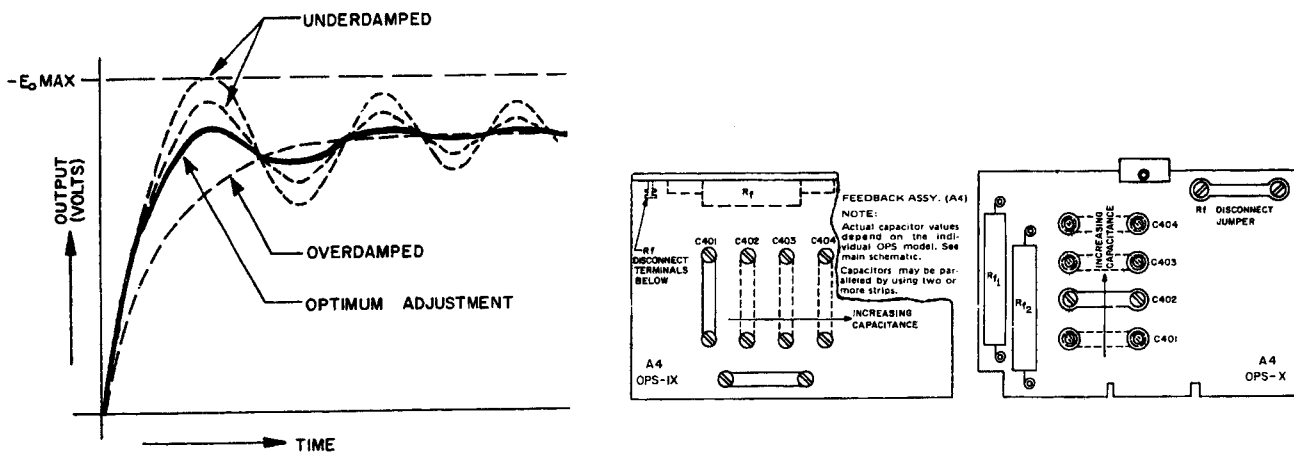

FIG. 3-5 OUTPUT RESPONSE TO A SQUARE WAVE AND FEEDBACK CAPACITOR LOCATION.
3-16 The wide-band characteristic of the OPS may give rise to dynamic instability ("ringing," "overshoot," "oscillations," etc.) at the output, especially with input sources producing a step-function and/or where the output is loaded with excessive capacitance. In the OPS, provisions have been made to stabilize the voltage channel amplifier for a fairly wide range of load conditions. A feedback capacitor "strapping arrangement" is provided on a printed circuit board (accessible after cover removal) and an adjustable lag network can be controlled through the OPS protective rear cover (OPS GROUP X) or through the front panel (OPS GROUP IX). The response characteristics of the OPS output are adjusted at the factory by optimizing the OPS square wave response at full power output (see FIG. 3-5). In cases of dynamic instability in *your* application, select the feedback capacitor and adjust the lag network as described in the following paragraph,
- 2) If instability is present, remove a-c power from the OPS. Remove the OPS cover and increase the feedback capacitance by changing the jumper link on the auxiliary board (A4- see FIG. 3-5) to the desired position. Re-install cover and turn OPS "on" again.